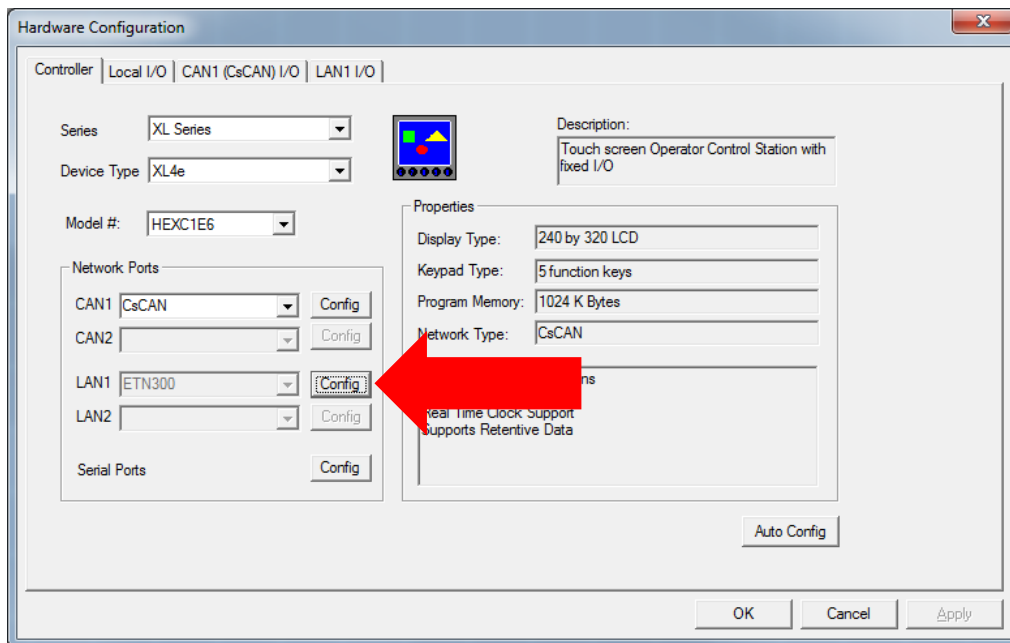

Figure 12.1 - Hardware Configuration Dialog
1. On the main Cscape screen, select the **Controller** menu and its **Hardware Configuration** sub-menu to open the Hardware Configuration dialog (Figure 12.1).